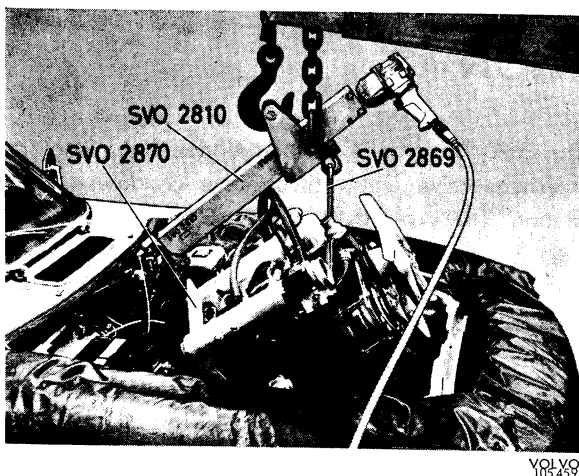

Fig. 2-8. Lifting out engine
23. Hook lifting beam SVO 2810 onto the lifting lugs and adjust the block and tackle unit at the rear end. Lift so that the engine starts rising at the rear end (see Fig. 2-8).